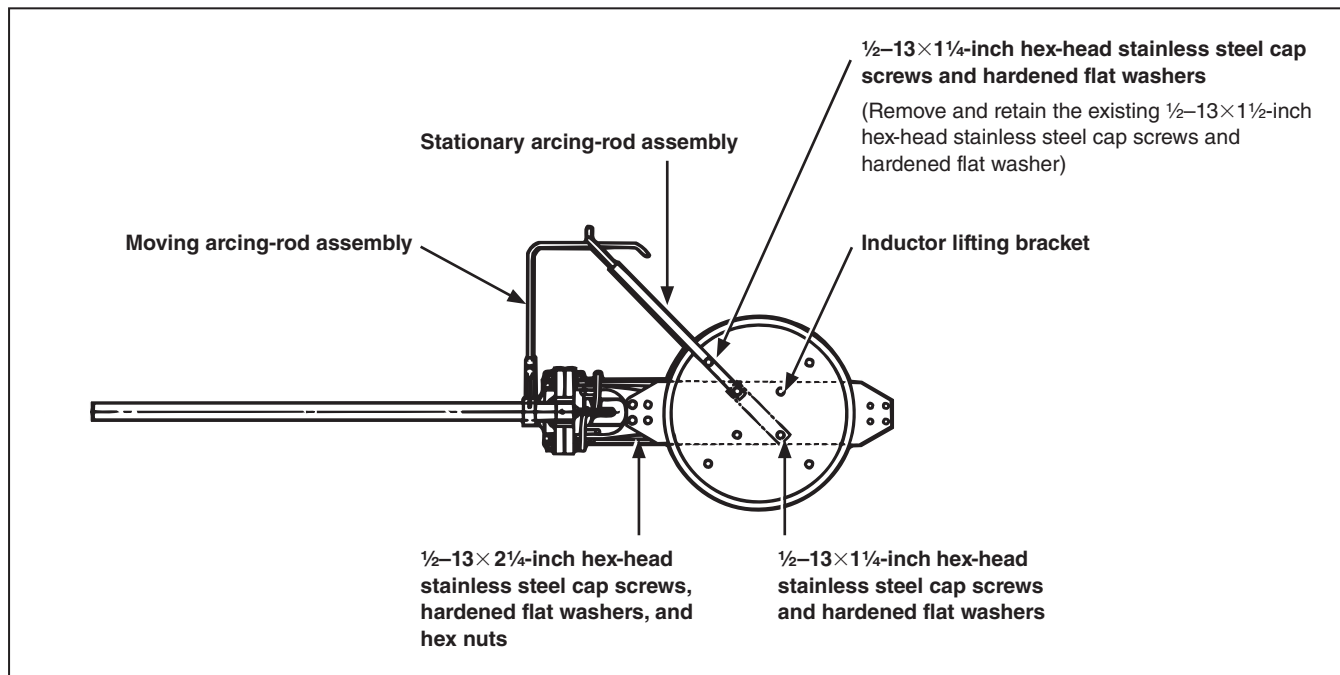
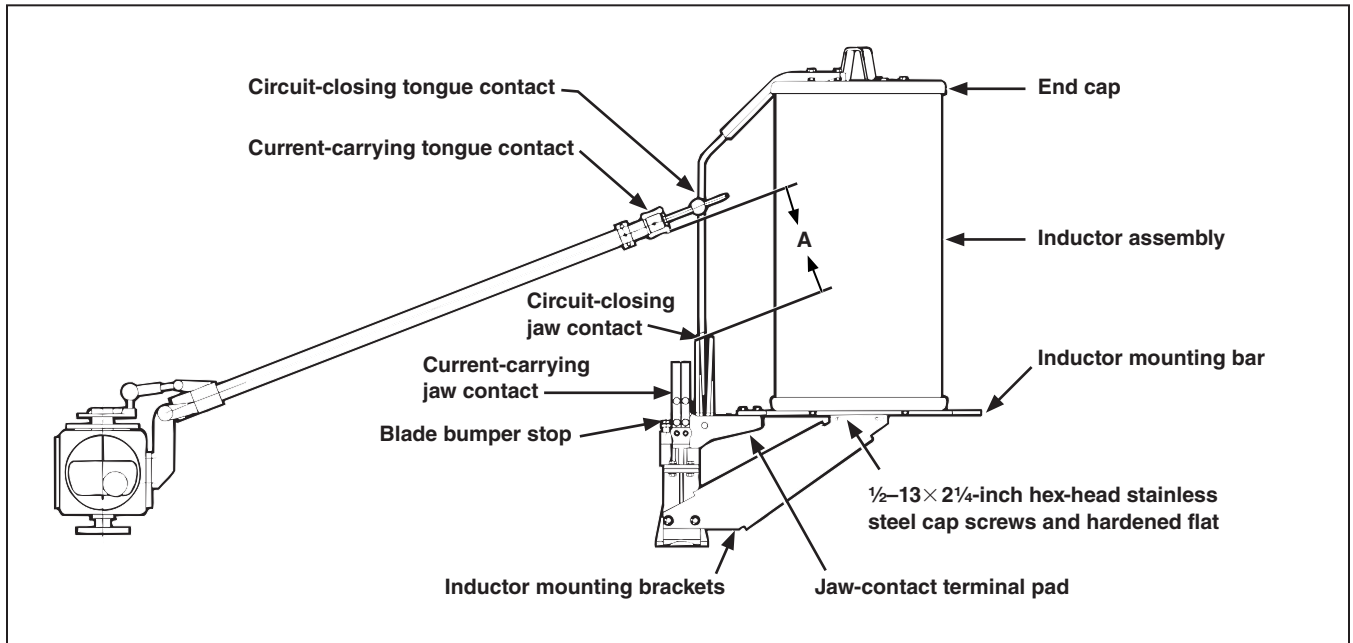
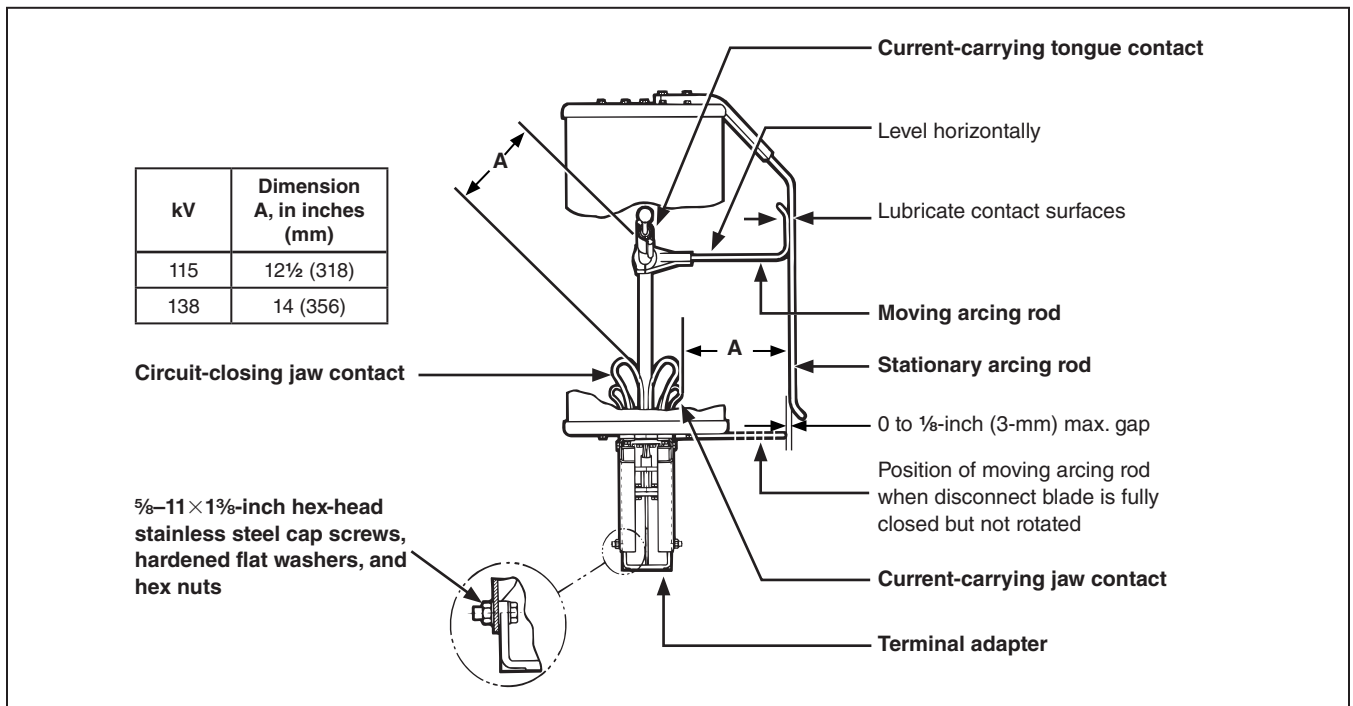

Figure 3. Top view, assembly details of standard-duty pre-insertion inductors for 115 kV and 138 kV vertical-break style circuit-switchers.
Figure 4. Side view, assembly details of standard-duty pre-insertion inductors for 115 kV and 138 kV vertical-break style circuit-switchers.
Figure 5. Front view, assembly details of standard-duty pre-insertion inductors for 115 kV and 138 kV vertical-break style circuit-switchers.
- STEP 1.** Loosely attach the inductor mounting bar to the top of the jaw-contact terminal pad using four $\frac{1}{2}$ -13 \times $\frac{2}{4}$ -inch hex-head stainless steel cap screws, eight flat washers, and four $\frac{1}{2}$ -13 hex nuts furnished. See top view in Figure 3 and side view in Figure 4 on page 11.
- STEP 2.** Refer to front view in Figure 5 on page 11, and insert, from the underside, four $\frac{5}{8}$ -11 \times $1\frac{3}{4}$ -inch hex-head stainless steel cap screws and flat washers through the tapped holes on each face of the terminal adapter. Loosely attach the inductor mounting brackets to the terminal adapter using four $\frac{5}{8}$ -inch flat
washers and $\frac{5}{8}$ -11-inch hex nuts furnished. See side view in Figure 4 and front view in Figure 5 on page 11.
- STEP 3.** Attach the inductor lifting bracket to the top end cap of the inductor assembly using two $\frac{1}{2}$ -13 \times $\frac{3}{4}$ -inch hex-head stainless steel cap screws and flat washers furnished. See Figure 3. Securely tighten the hardware.
- STEP 4.** Lift the inductor assembly on top of the inductor mounting bar and the inductor mounting bracket. Attach the bottom end cap of the inductor assembly to the inductor mounting bar and inductor mounting bracket using four $\frac{1}{2}$ -13 \times $\frac{2}{4}$ -inch hex-head stainless steel cap screws and flat washers. See side view in Figure 4 on page 11. Securely tighten the hardware.
- STEP 6.** Securely tighten each $\frac{5}{8}$ -11 hex nut attaching the inductor mounting bracket to the terminal adapter while holding the associated $\frac{5}{8}$ -11 \times 1 $\frac{3}{4}$ -inch hex-head stainless steel cap screw to prevent it from turning. See front view in Figure 5 on page 11. Now tighten each $\frac{5}{8}$ -11-inch hex nut $\frac{1}{3}$ additional turn.
- STEP 8.** Remove and retain the appropriate $\frac{1}{2}$ -13 \times $\frac{3}{4}$ -inch hex-head stainless steel cap screw and flat washer from the top end cap of the inductor assembly. See top view in Figure 3 on page 10. Loosely attach the stationary arcing-rod assembly to the top end cap using two $\frac{1}{2}$ -13 \times 1 $\frac{3}{4}$ -inch hex-head stainless steel cap screws and flat washers furnished. Insert a $\frac{1}{2}$ -13 \times $\frac{3}{4}$ -inch hex-head stainless steel cap screw and flat washer into each of the other three tapped holes in the top end cap. Securely tighten each of these screws.
- STEP 10.** Manually close the circuit-switcher so the minimum metal-to-metal clearance between the current-carrying tongue contact and the nearest circuit-closing jaw contact is equal to Dimension A, as shown in side view, Figure 4 on page 11 and front view, Figure 5 on page 11. Adjust the stationary arcing-rod assembly to obtain a 0-inch to $\frac{1}{8}$ -inch (3-mm) gap between the stationary arcing rod and the moving arcing rod. See front view in Figure 5 on page 11.
Securely tighten the two $\frac{1}{2}$ -13 \times 1 $\frac{3}{4}$ -inch hex-head stainless steel cap screws. Lubricate the contact surfaces with an appropriate lubricant, such as S&C catalog number 9999-043 or equivalent. See front view in Figure 5 on page 11.
- STEP 11.** Manually operate the circuit-switcher to recheck the alignment between the moving and stationary arcing rods. During closing, the clearance between the moving and stationary arcing rods should be 0-inch to $\frac{1}{8}$ -inch (3-mm), as shown in front view, Figure 5 on page 11. Readjust the stationary arcing-rod assembly, if necessary, then securely retighten the cap screws on the inductor assembly end cap.
- STEP 12.** Verify the minimum metal-to-metal clearance between the stationary arcing rod and the nearest current-carrying jaw contact is equal to Dimension A, as shown in front view, Figure 5. If necessary, loosen the four $\frac{1}{2}$ -13 \times 2 $\frac{1}{4}$ -inch hex-head stainless steel cap screws securing
the inductor assembly to the inductor mounting bar and inductor mounting bracket, and reposition the inductor assembly; then securely retighten the cap screws. Make sure the 0-inch to 1/8-inch (3-mm) gap between the stationary arcing rod and the moving arcing rod shown in front view, Figure 5, has been maintained.